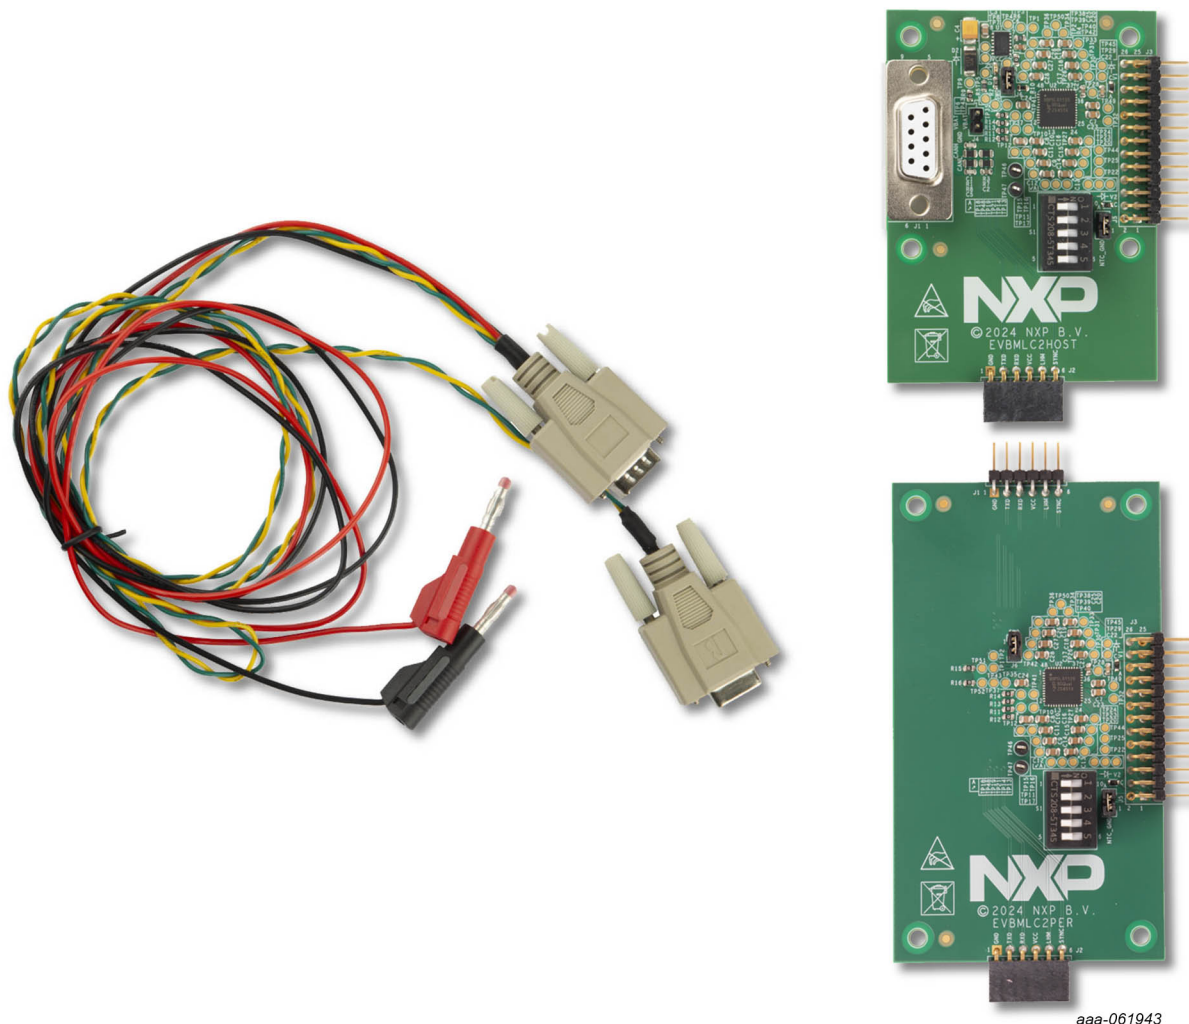

Figure 2. Kit expanded by adding one EVBMLC2PER to the EVBMLC2HOST
- NXP MLC GUI. The required material and setup information are shown in Figure 2. If using this option, there is no need for an external CAN interface and the CANoe software. The available firmware can be downloaded to the flash memory of the MCU mounted on the S32K144 evaluation board. The graphical user interface (GUI) runs on a Microsoft-Windows-based laptop. In addition to the software, in the download you find detailed documentation with installation instructions and a user manual.